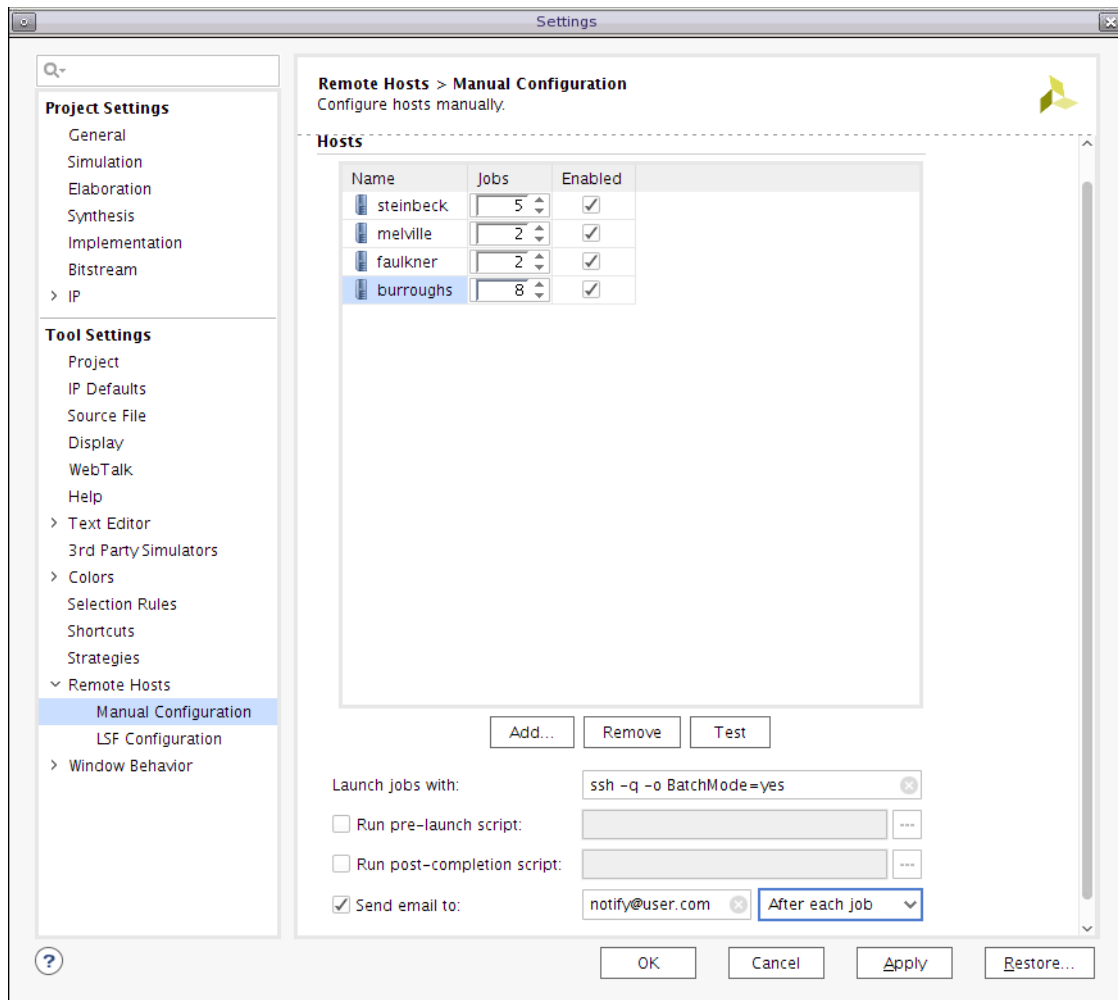

Figure A-4: Configuring Remote Hosts
2. As shown in Figure A-4, the Settings dialog box appears, with the Remote Hosts section selected. Click the **Manual Configuration** tab to see the list of currently defined remote Linux hosts.